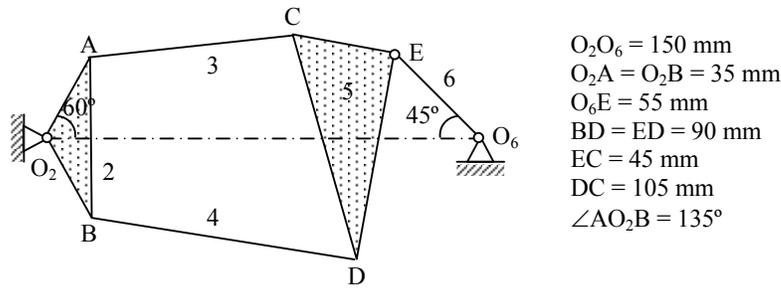

Fig. 1
1. a) Write on velocity image and acceleration image of a rigid body in plane motion. (7)
b) What are polodes? Explain construction of fixed and moving polode. (7)
2. a) Briefly explain any two methods for the analysis of complex mechanisms. (4)
b) The mechanism shown in Fig.1 is driven by link 6 with $\omega_6 = 0.5 \text{ rad/sec.}$ and $\alpha_6 = 2 \text{ rad/sec}^2$. both counterclockwise. Determine ω_2 and α_2 . (10)